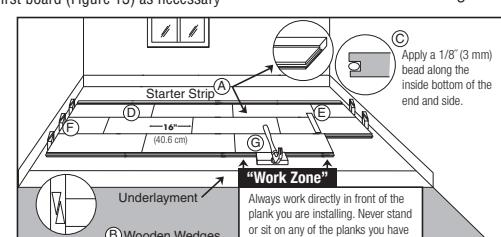

Figure 14
installations should begin with the groove side against the wall using the longest boards available. Apply a continuous 1/8" (3 mm) glue bead to the inside bottom of the groove on the end of the board. Do not apply glue to the groove side at this time (Item C, Figure 14). Products with the end tongue on the left should be installed right to left, opposite tongues should be left to right. (Item D, Figure 14). If a sacrificial board was used remove it DO NOT glue the first one to it.
- Complete the first row. Cut the last board allowing for 1/2" (13 mm) clearance between the wall and the floor. (Use the remaining end of the cut board as a starter board for any row following row three). Install a wedge on the end of the board between the hardwood flooring and the wall, allowing 1/2" (13 mm) expansion space. Avoid installation of any boards shorter than 16" (40.6 cm) in the first four rows. (Item E, Figure 14).
- Use a pull bar to pull the last board into place from the opposite end. Install wedges into the gap and tighten (Item B, Figure 14).
- Cut or use a shorter board for the first board of the second row. Start the second row by applying a 1/8" (3 mm) bead of glue to the inside bottom of the end and side groove of the new board. Install the first board of row two. Apply a bead of glue to the inside bottom of the end and side groove of the next board and install. When installing boards together, use a tapping block against the tongue, not the groove (Item G, Figure 14). Tap the boards into place by tapping with a hammer on the tapping block. DO NOT tap on the edge directly with the hammer. Complete the second through fourth rows using this technique. Insert wedges on the ends, as necessary, to restrain the movement of the floor.